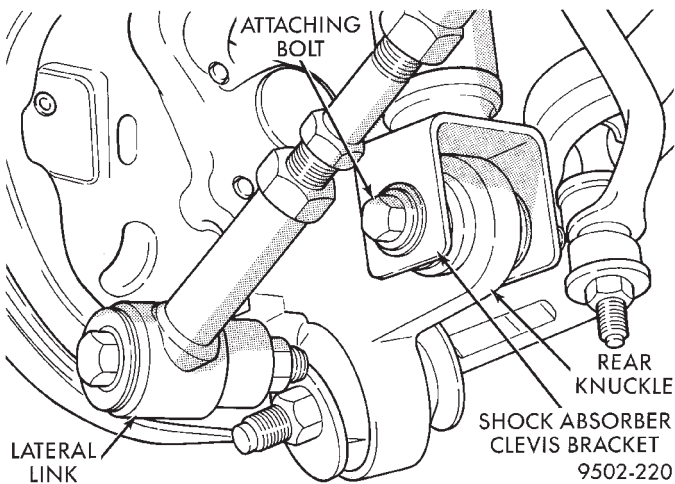

Fig. 21 Shock Absorber To Knuckle Attaching
(1) Raise vehicle on jackstands or centered on a frame contact type hoist. See Hoisting in the Lubrication and Maintenance section of this manual, for the required lifting procedure to be used for this vehicle.
(2) Remove both rear wheel and tire assemblies from the vehicle.
(3) Remove the shock absorber clevis bracket to rear knuckle attaching bolt and nut (Fig. 21) on both sides of the vehicle.
(8) Install the shock absorber clevis brackets (Fig. 21) on the rear knuckles. Tighten the shock absorber mounting bolts to a torque of 95 N·m (70 ft. lbs.).
(9) Install wheel and tire assembly on vehicle. Tighten the wheel mounting stud nuts in proper sequence until all nuts are torqued to half specification. Then repeat the tightening sequence to the full specified torque of 135 N·m (100 ft. lbs.).
(10) Lower vehicle to the ground.
(11) Check and reset if required, rear wheel Camber and Toe to preferred specifications.